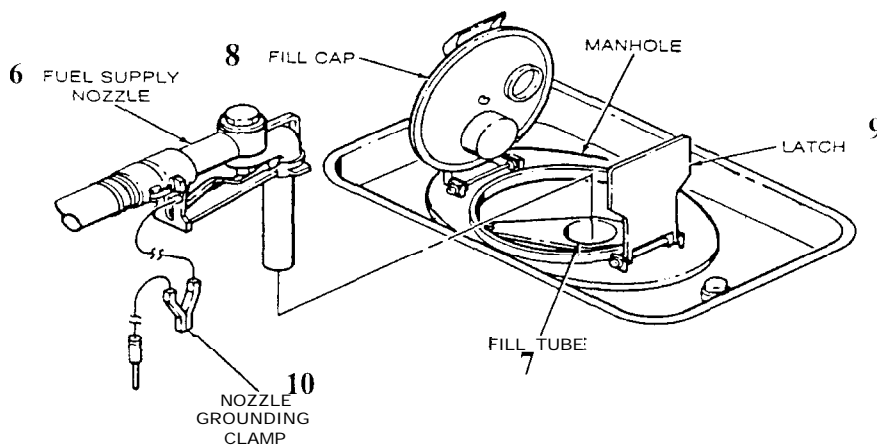

Figure 2-1 | " Emergency Refilling of Tank "
- b. Attach nozzle grounding clamp (10, Figure 2-1 | ) to fuel tank being serviced.
- c. Open manhole latch (9, Figure 2-1 | ) and fill cap (8, Figure 2-1 | )
- d. Insert fuel supply nozzle (6, Figure 2-1 | ) into fill tube (7, Figure 2-1 | ) of tank and fill tank.